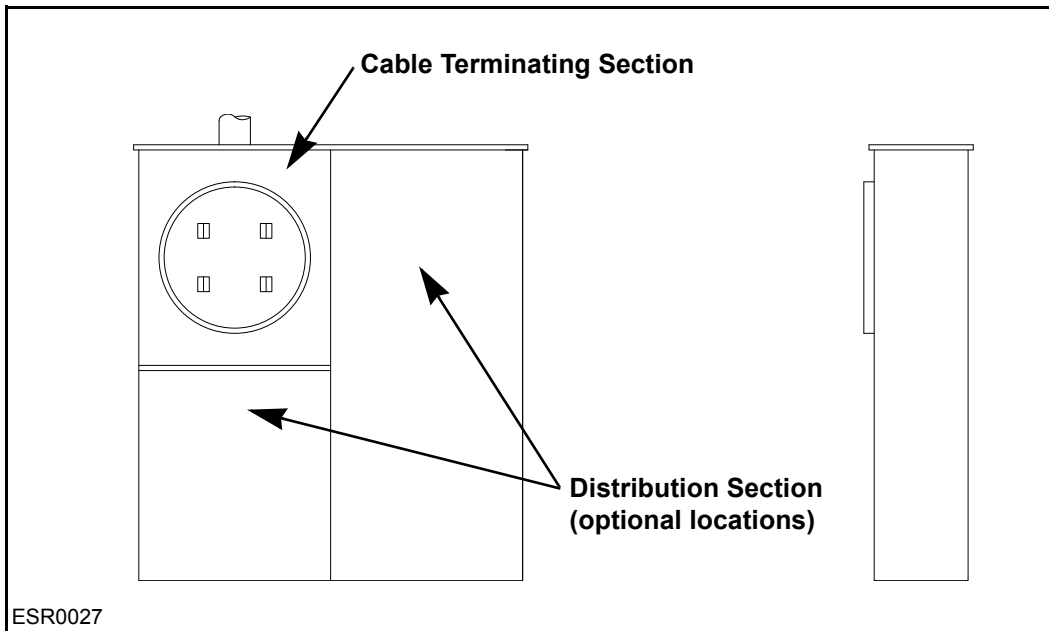

Figure 7-15: Residential Overhead Approved Meter Socket, 100, 200, and 400 Amps
**Figure 7-15** shows a residential overhead approved meter socket for 100 amp, 200 amp (EUSERC 301 or 301A), and 400 amp (320 amp continuous) maximum, single-phase service (EUSERC 302B).